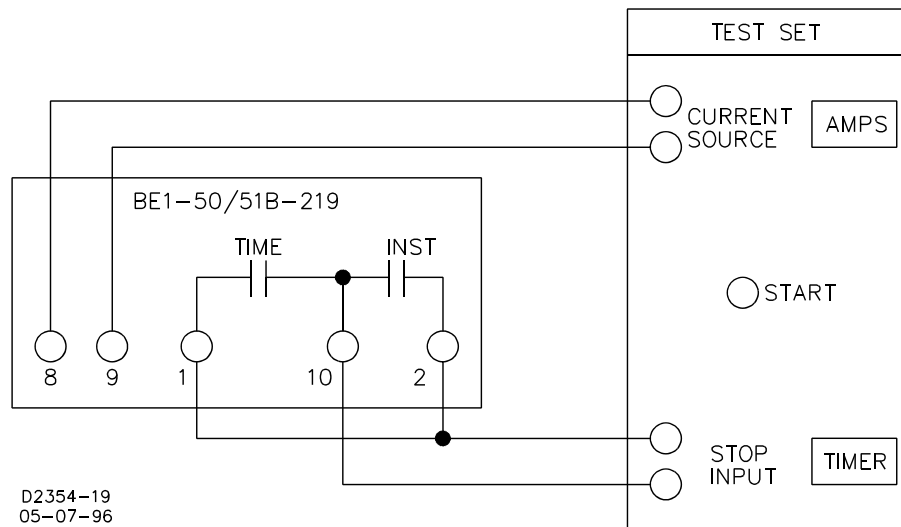

Figure 5-1. Pickup and Timing Test Setup
The following procedure verifies operation of the relay. The test setup of Figures 5-1 and 5-2 are intended primarily as an illustration of the principles involved. Other test setups known to be capable of testing with the stated and implied tolerances (including equipment specifically designed for testing relays) may be used.
- Connect test setup as shown in Figure 5-1.
Single phase relays such as the BE1-50/51B-219 are normally used in groups of four (three phase and ground) on the protected circuit. This relay scheme allows each unit to be withdrawn one at a time for testing purposes without losing protection. Only three are required at any one time to sense all types of faults on a grounded wye system. Refer to Figures 5-1 and 5-2 for recommended test setups.